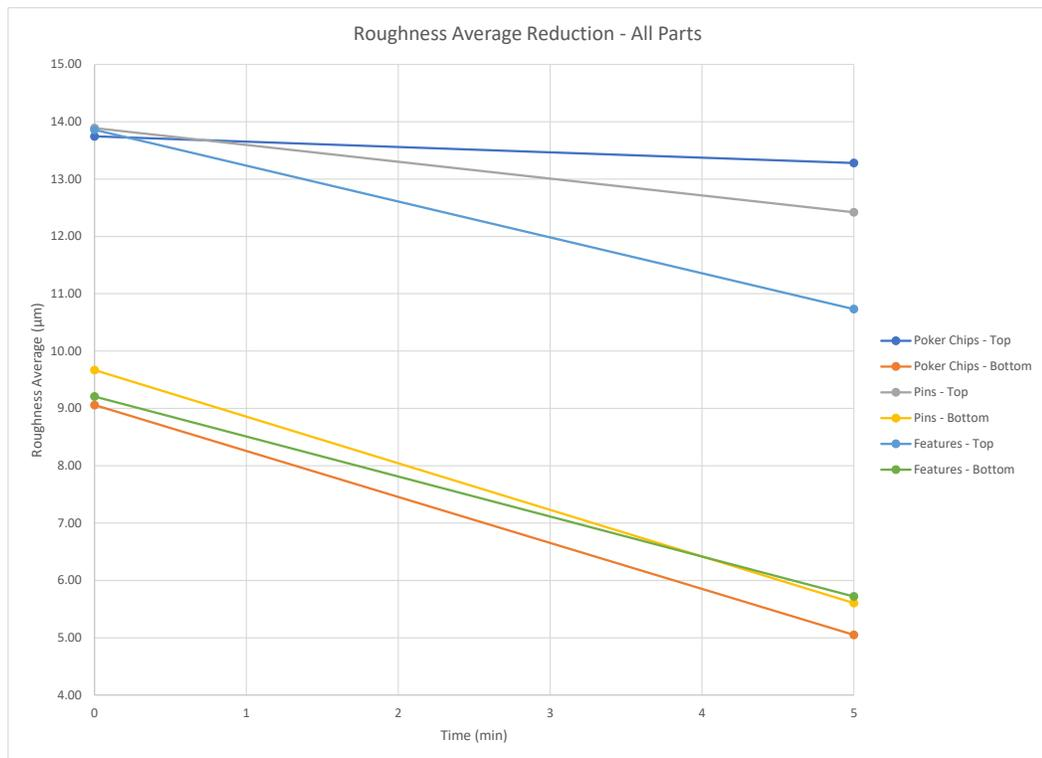

Figure 3
- Surface finishing in the DECI Duo for 5 minutes, shown in Figure 3 below.